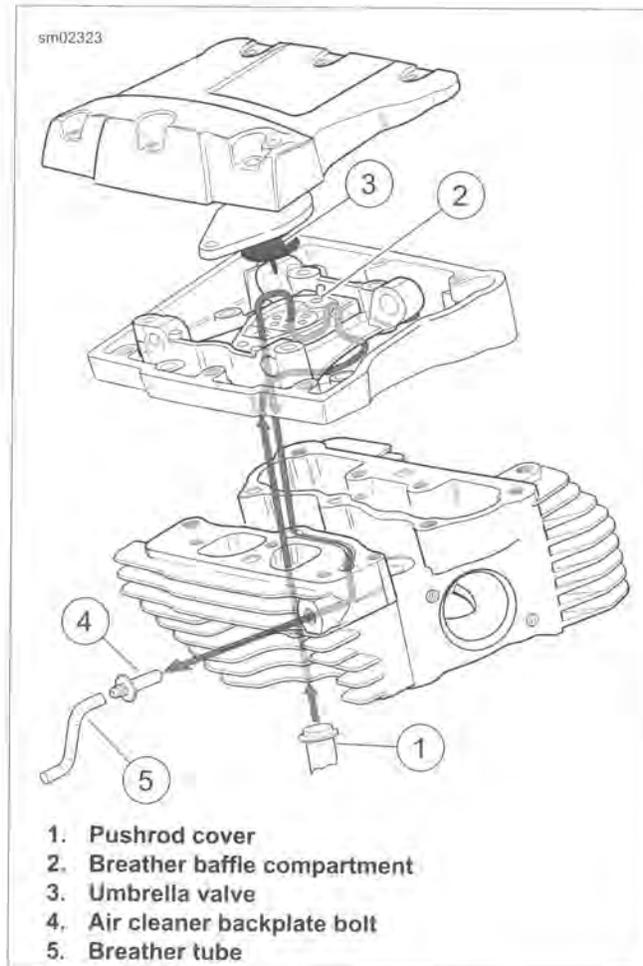

Figure 3-7. Breather Air Flow
See Figure 3-7. As pistons push downward, displaced air in the crankcase is vented through the crankshaft roller bearing into the cam compartment. The air then flows up the pushrod covers (1) into the rocker housing. The moving air absorbs a small amount of oil vapor as it travels through the engine.